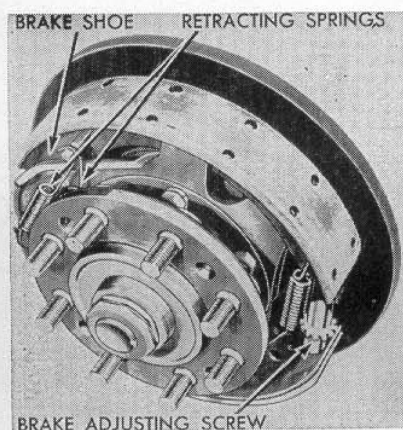

Fig. FO71—Model 8N brake and rear wheel hub. Hub is splined to wheel axle shaft.
90. WHEEL AXLE SHAFT AND BEARINGS. Jack up rear end of tractor and remove the rear wheel and tire assembly. Remove brake drum as shown in Fig. FO71 and use a suitable puller to remove wheel hub. Remove bearing retainer stud nuts and pull retainer and brake assembly off axle housing. Pull axle shaft out of axle housing. Wheel axle shaft bearings can be renewed at this time. Reinstall parts in reverse order of removal. Adjust wheel bearings as outlined in paragraph 88A. Tighten axle shaft nut using 450 foot pounds torque and install lock ring. Refer also to Fig. FO70.
brake drum screws and pull drum off shaft Fig. FO71. Remove brake shoe retracting springs and shoes. Reinstall